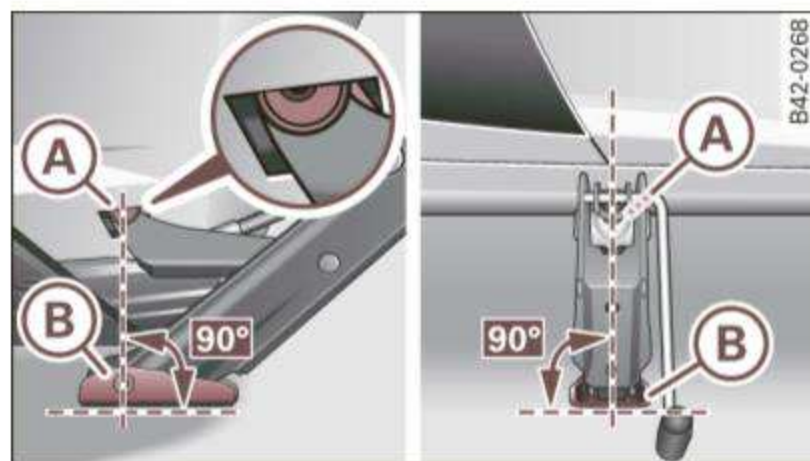

Fig. 133 Close-up:
- Align the jack so that its arm (A) ⇒ fig. 133 engages in the designated lifting point in the door sill and the movable base (B) lies flat on the ground. The base (B) must be *vertical* under the lifting point (A).